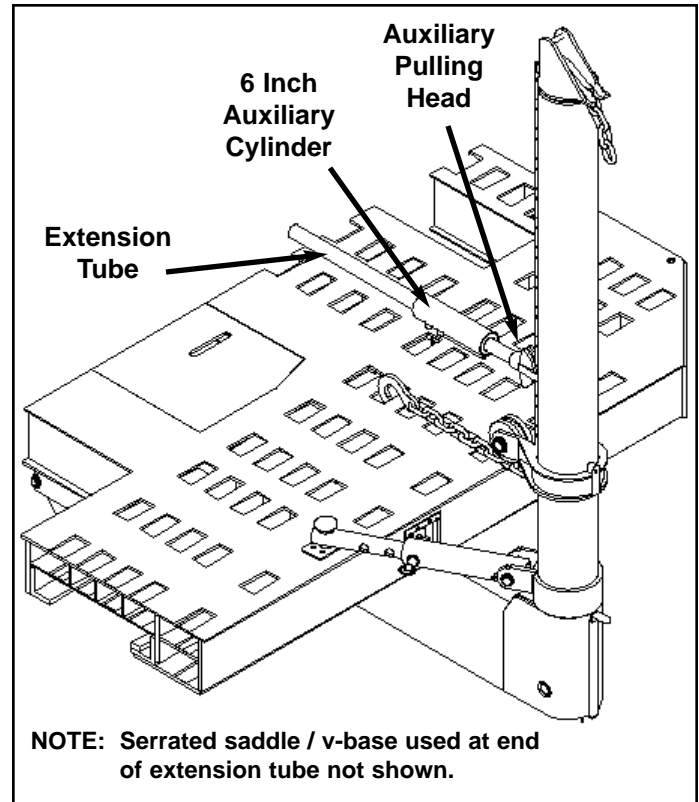

Figure 42
6. Position auxiliary pulling head against tower chain and extension tube assembly against vehicle. (See Figure 42.)